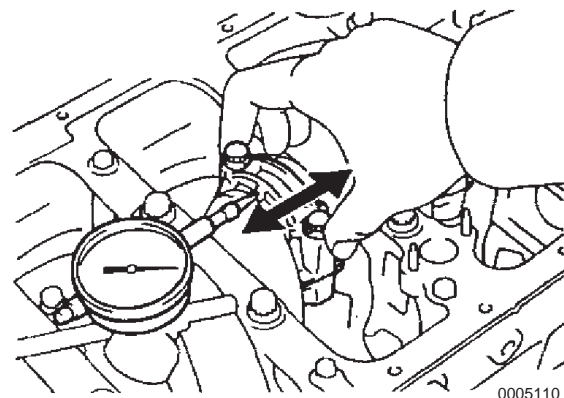

Figure 5-80
3. To check the connecting rod thrust clearance, move the connecting as shown in **Figure 5-80** to measure the thrust clearance using a dial gauge.